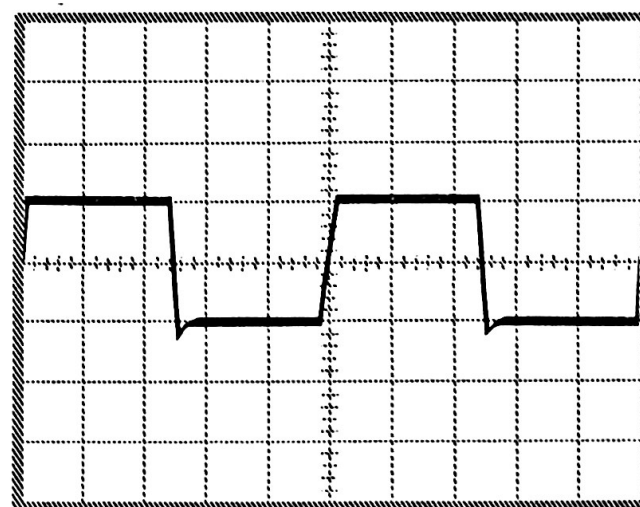

Figure 19
10. Adjust the X5 CAL control (R278, on the horizontal circuit board) and the HORIZ POS control for exactly 2 cycles in 10 centimeters as shown in Figure 19. When you make this adjustment, place the leading edge of the first cycle on the left-hand graticule line and the leading edge of the second cycle on the center graticule line.